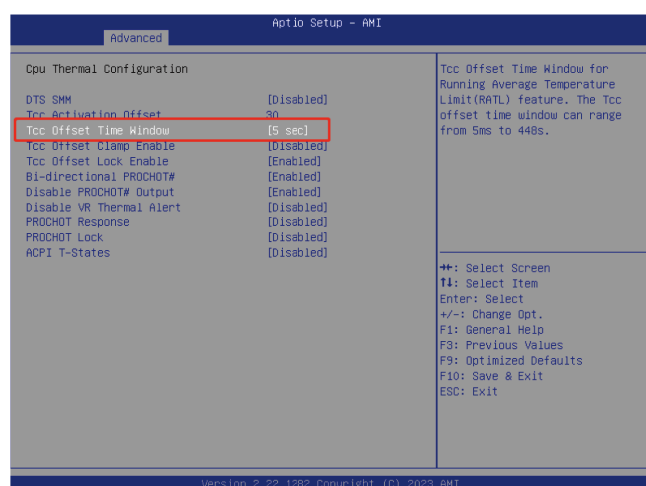
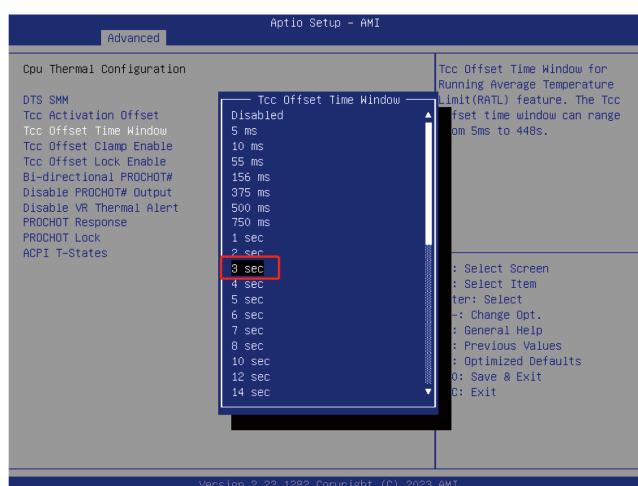

Figure 2-8-7
Figure 2-8-8
⑥ Press the ↓ key to select the Tcc Offset Time Window item, the default value is 5sec (Figure 2-8-7), and the value can be changed to 3sec. Press Enter to select this option. Figure 2-8-8.